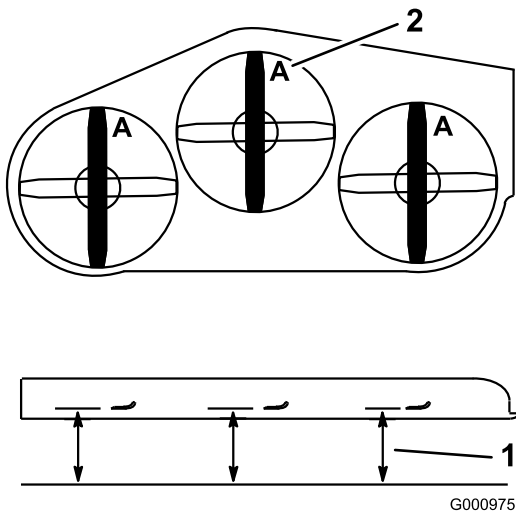

Figure 85
4. Measure at **A**, and from a level surface to the cutting edge of the blade tips (Figure 85).